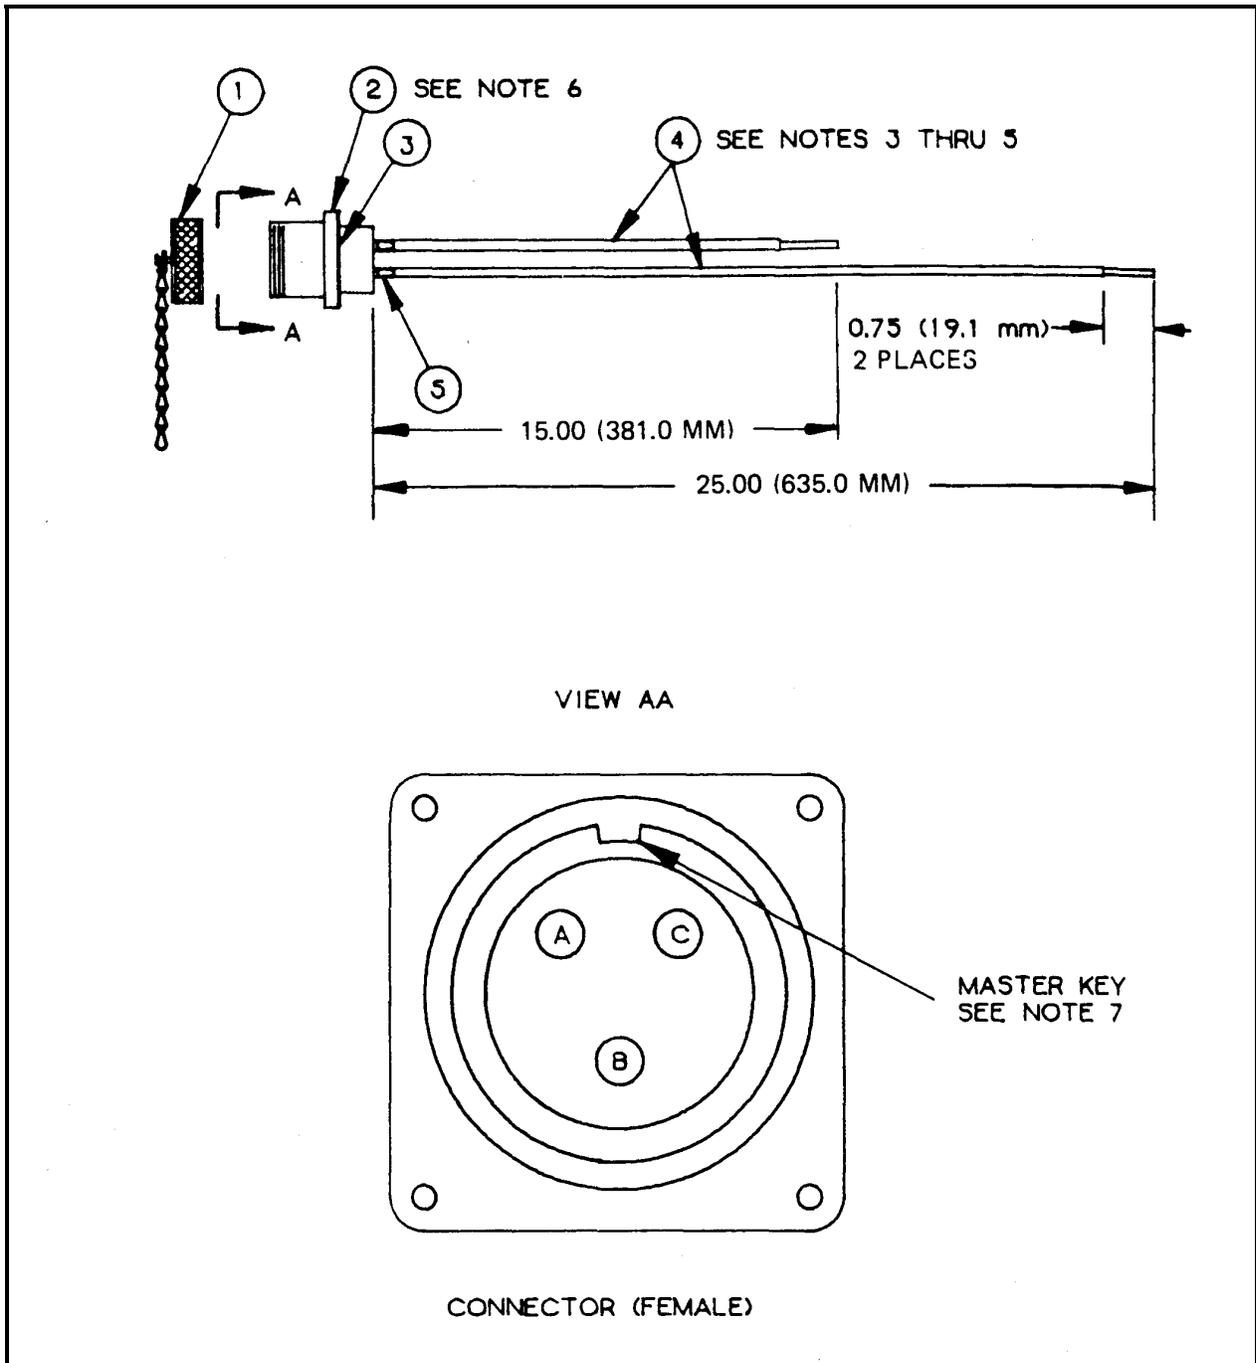

Figure F-35. M100 A/P (PDISE) 20-Amp, Output Connector Assembly, (J7)
Component Legend for Figure F-35
- c. Electrical connector (Figure F-35, Item 2) is furnished with the following: